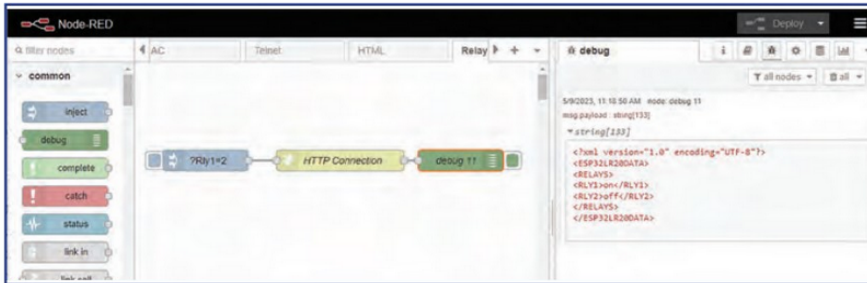
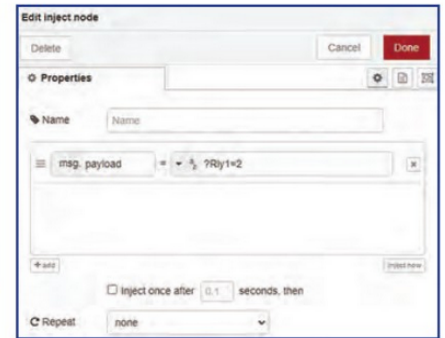

FIGURE 6: Test flow for the relay board.
FIGURE 7: Relay board Inject node configuration.
FIGURE 6: The total-power azimuth pattern on 14MHz at an elevation of 5 degrees. This also provides confirmation that peak radiation is broadside to the antenna when the Half-Square is a full-wavelength in length.
On 14MHz, the fact that we can feed this antenna at the base rather than in one of the top corners does little to change its character as a broad-side antenna. Figure 6 reveals its azimuth pattern at an elevation of 5°. As we look at this diagram, note that the antenna is fed at '9 O' Clock', on the mid-left-hand side of the diagram. This means that the horizontal aspect of our Half-Square dissects the diagram running from left to right. As we can see, Figure 6 confirms that most of our gain at this low take-off angle is broad-side to the horizontal part of the antenna, just like a dipole mounted near to a half-wavelength above the ground (for the 20m band this would be 10m, or 33 feet, above ground). As per the traditional flat-top dipole, there are noticeable nulls towards both ends. In this case,
- To test the connection, add Inject and Debug nodes (Figure 6). Double-click the Inject node to open the configuration (Figure 7). In the box next to msg.payload use the drop-down to select string and enter ?Rly1=2. Click the small cross of the msg.topic line to delete it. Click Done. Next, wire the Inject node to the left-hand side of the HTTP connection node. Double-click the Debug node to open the configuration panel. Set the output to msg.payload, click Done followed by Deploy to activate the flow. If all is well, every time you click the inject node button, relay 1 will toggle. If you look at the Debug message and click the small arrow, you will see the XML message from the relay board. Although the message is buried in formatting, you can read the state of the relays. This is vital information that reports the state of the relays after executing the previous command. However, we need to process the XML message to make it easier to work with. This is a simple